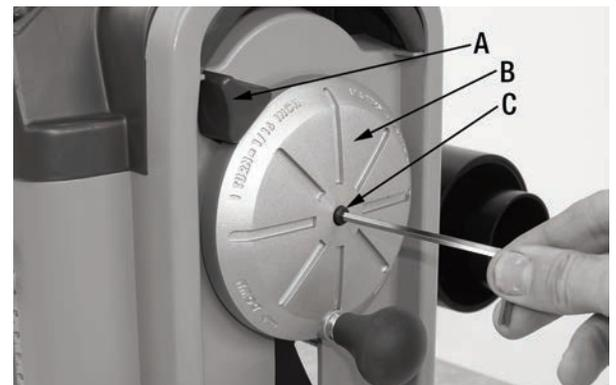

FIGURE 17
- 2) Unlock the cutterhead by placing the lock lever (A) Fig.17 towards the left. Raise the cutterhead near its maximum height by turning the handwheel (B).
- 3) Remove the handwheel cap screw (C) Fig.17 with the supplied 4 mm hex. key and pull the handwheel off its shaft.